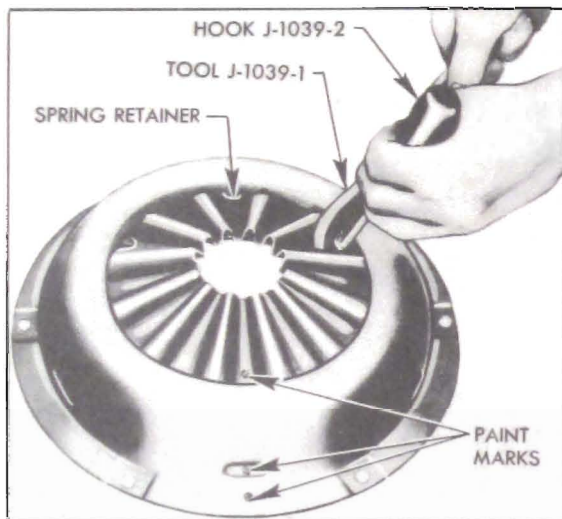

Figure 4-16—Attaching Spring Retainer to Cover—Series 40-50
1. Place pressure plate and cover assembly on flat work surface and mark cover, pressure plate, and clutch spring with paint so that parts can be reassembled in the same relationship to each other in order to preserve engine balance. See figure 4-16.
2. Unhook spring retainers from ears on clutch cover, using Assister Hook J 1039-2 shown in figure 4-16, Tool J 1039-1 shown in illustration is not used in this operation.
5. Use Assembly Tool J 1039-1 and Assister Hook J 1039-2 to hook loop of each spring retainer over ear on clutch cover. See figure 4-16. Do not hammer on tools to get them into place because this will distort clutch cover. Do not stretch retainers any further than is necessary to hook loop over ear on cover. If retainers appear weak or distorted they should be replaced in complete sets to insure even tension.